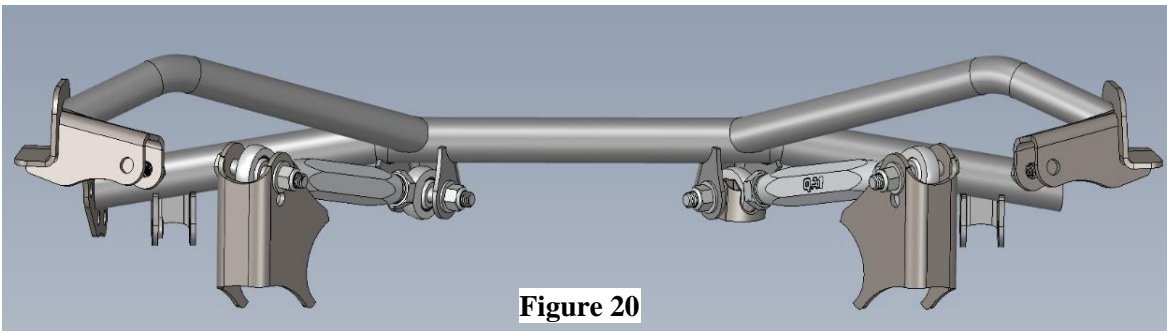

Figure 20
15. Identify the left/right weld-in mounts for the upper trailing arm to axle connection and install the red anodized upper trailing arms into the top hole with one SG12-88 spacer on each side of the rod end. Secure using 1/2"x 3.25" hardware with two washers and one nyloc nut per connection. The upper trailing arms should now be hanging from the crossmember with weld-in brackets in preparation for the axle mock-up. (**Figure 20**)